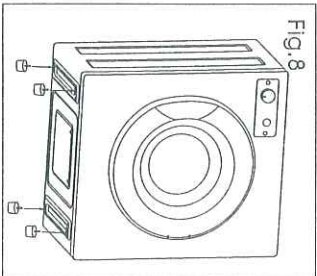
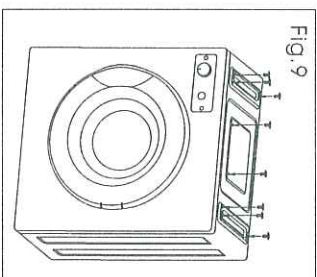

Fig. 8
Fig. 9
2) Put the dryer up-side-down and install the four legs at the bottom/ Top side of the original dryer, as Fig. 8). Push rubber plugs inside holes on the top of the dryer(Bottom of the original dryer, as Fig. 9)